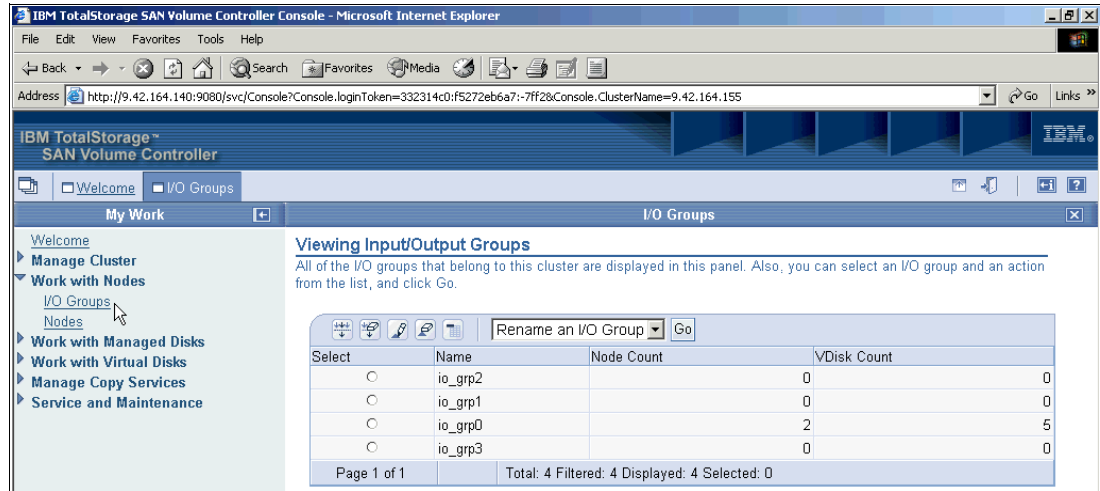

Figure 9-18 Viewing Input/Output Groups
2. The Viewing Input/Output Groups panel (Figure 9-18) opens. Select the radio button to the left of the I/O group you want to rename. In our case, we select **io\_grp0**. Ensure that **Rename an I/O Group** is selected from the list. Click **Go**.